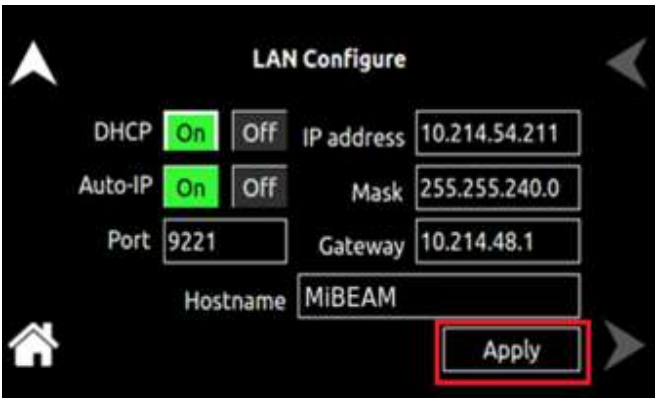
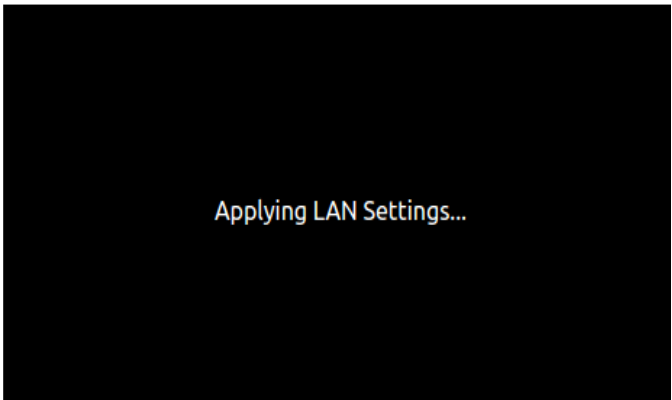

Figure 9-176. LAN Screen – Apply
Figure 9-177. LAN Screen - Applying LAN Settings
- **Apply:** Applies the LAN settings to the supply. Refer to Figure 9-176 and Figure 9-177.